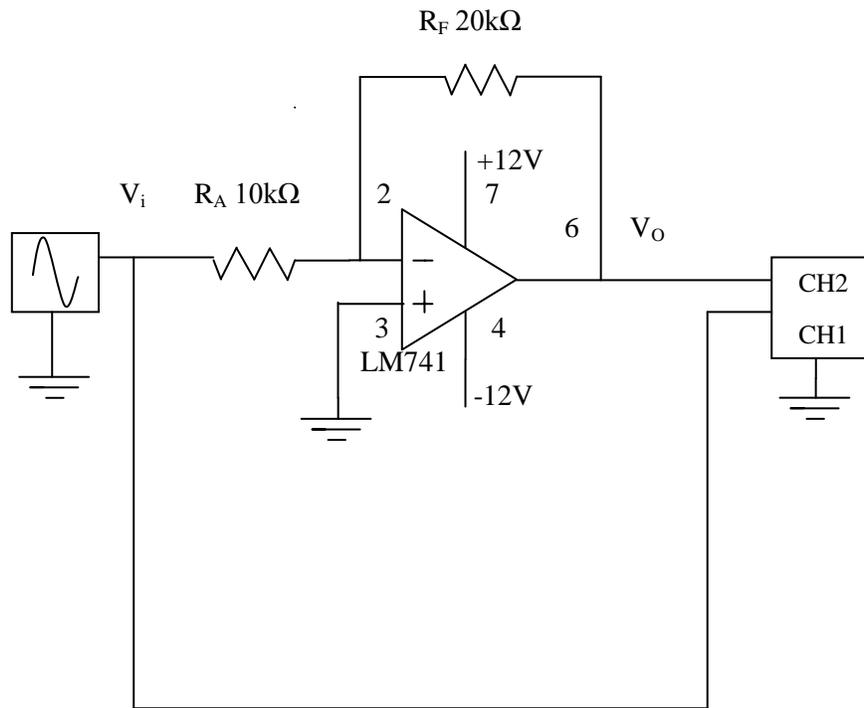

Fig 11.1 Op-amp as inverting amplifier
In inverting amplifier output waveform is out of phase with respect to input waveform. Input will be amplified by factor A_v in magnitude. Signal to be amplified is applied to the inverting input of the op-amp through the input resistance R_A as shown in above Fig 11.1. R_F is the feedback resistor. R_F and R_A together determines the gain of the amplifier. Inverting operational amplifier gain can be expressed using the equation $A_v = -R_F/R_A$. Negative sign implies that the output signal is negated.
1. Connect circuit of Fig 11.1 to measure signals then setting oscilloscope scale as follows, both CH1 and CH2, using 0.5V/div with time base of 1ms/div.